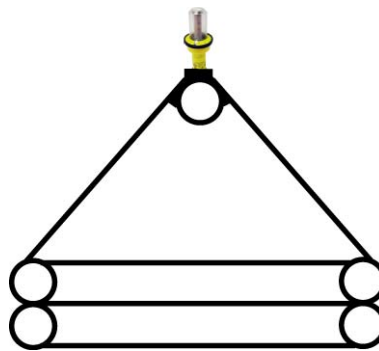

Figure 26 - Installation on top life raft
- either directly on top life raft (See Figure 26 - Installation on top life raft):